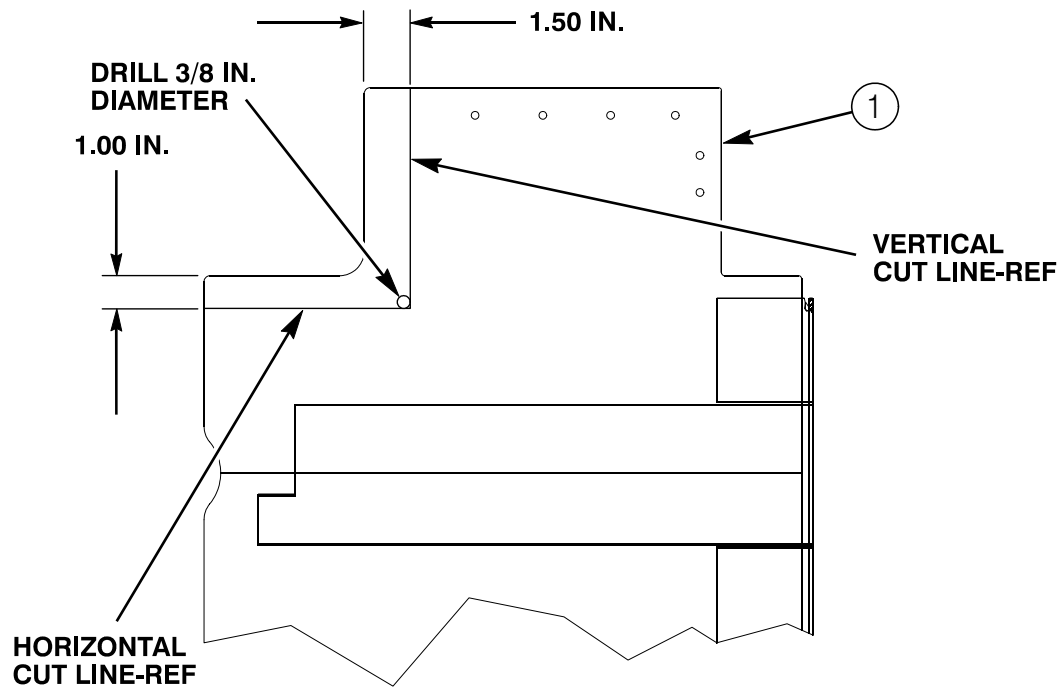

Figure 2.
1. Layout and draw cut lines on upper front panel of left front underbody armor assembly (1) as shown in figure 2.
2. Drill one 3/8 inch diameter hole through upper front panel of left front underbody armor assembly (1), tangent to vertical and horizontal cut lines. Refer to figure 2.
3. Using a wiz wheel or equivalent, remove material from upper front panel of left front underbody armor assembly (1) by cutting along vertical and horizontal cut lines which are tangent to 3/8 inch diameter drilled hole. De-burr cut edges. Refer to figure 2.